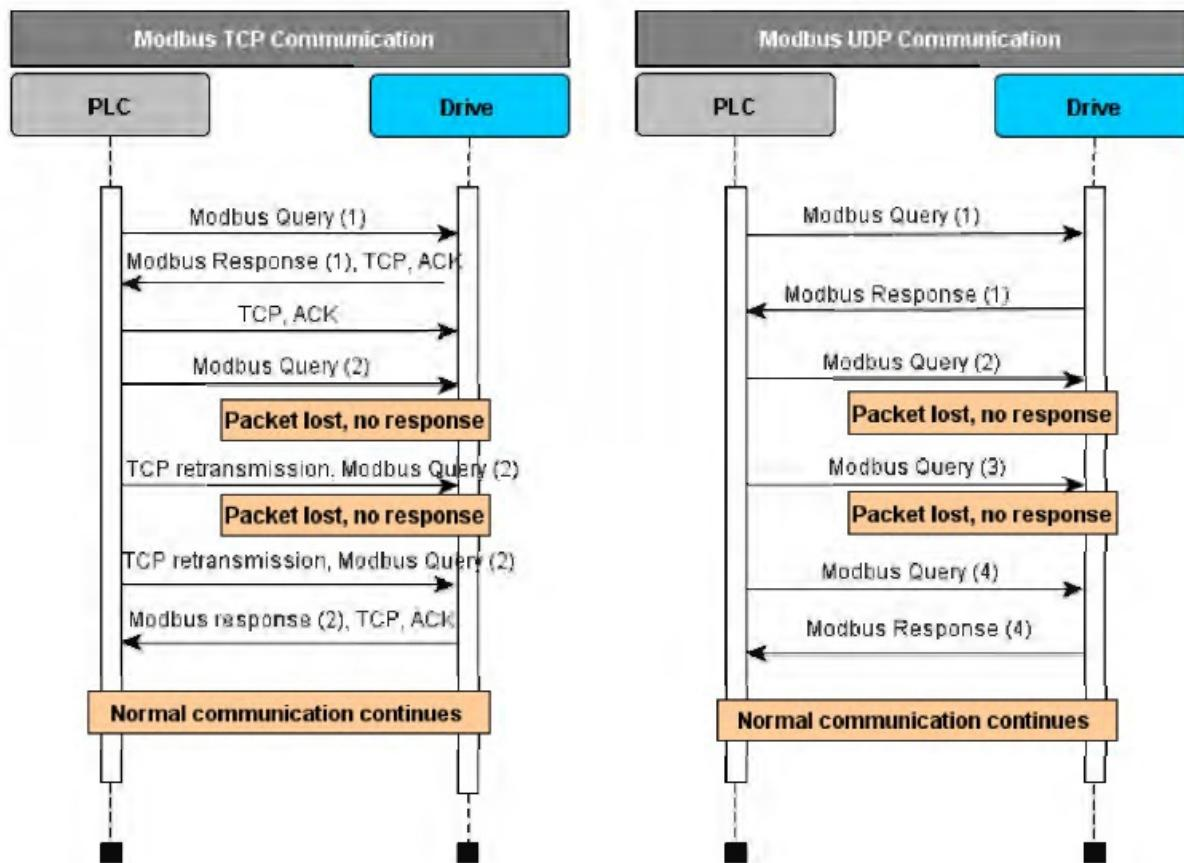

Figure 5-3. Modbus TCP and UDP communication errors comparison
- When using UDP it is not guaranteed that the sent frame reaches its destination. PLC must keep track of the Modbus requests by using the Modbus transaction id-field. It actually must do this also when using TCP. If PLC does not receive response in time from drive in UDP connection, it needs to send the query again. When using TCP, the TCP/ IP stack will keep resending the request until it has been acknowledged by the receiver (see Figure 5-3. Modbus TCP and UDP communication errors comparison). If PLC sends new queries during this time, some of those may not be sent to network [by TCP/ IP stack] until previously sent package(s) has been acknowledged. This can cause small packet storms when the connection is resumed between PLC and drive